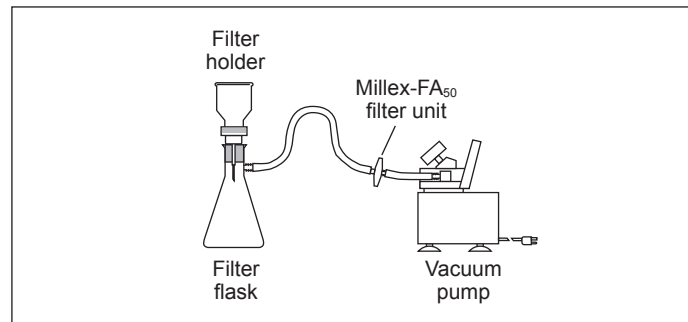

Figure 1. Proper use of Millex-FA₅₀ filter
CAUTION: Always use the supplied hydrophobic vent filter or a vacuum-flask water trap in conjunction with the pump, as indicated in Figures 1 and 2. Never pump or draw liquids through the pump, as this will damage the pump.
- Always use the Millex-FA₅₀ vent filter and 1/4 inch silicone tubing included with the pump when applying vacuum. This will prevent liquids or vapors from entering the pump. A properly attached Millex-FA₅₀ vent filter is illustrated in Figure 1.
CAUTION: During vacuum filtration, use the supplied Millex-FA₅₀ hydrophobic vent filter, to prevent excessive amounts of liquids or mist from entering the pump (figure 1). For maximum protection, use a vacuum-flask water trap (figure 2).